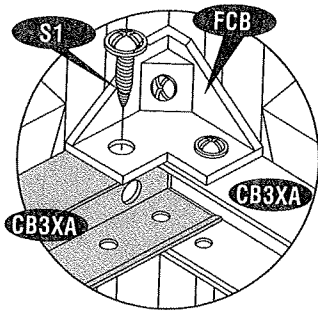

Fig.1
20. Stabilize the side panels with center bands (**CB3XA**) & (**CB6H**) assembly. See fig.1 to 5 and follow the steps.